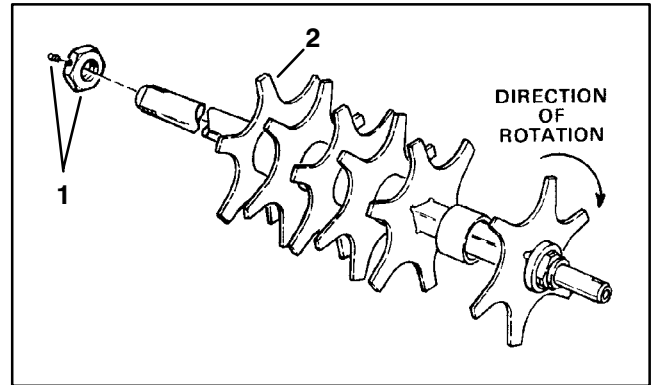

Figure 7
8. Loosen set screw securing nut to left side of reel shaft. Remove nut (Fig. 7).
10. Reinstall spacers and new blades as shown in Fig. 7. Make sure blades are alternated properly and leading edge of each blade is correct for the direction of rotation.